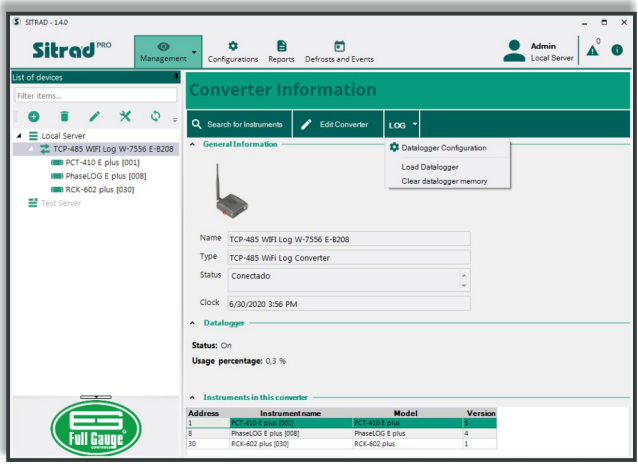
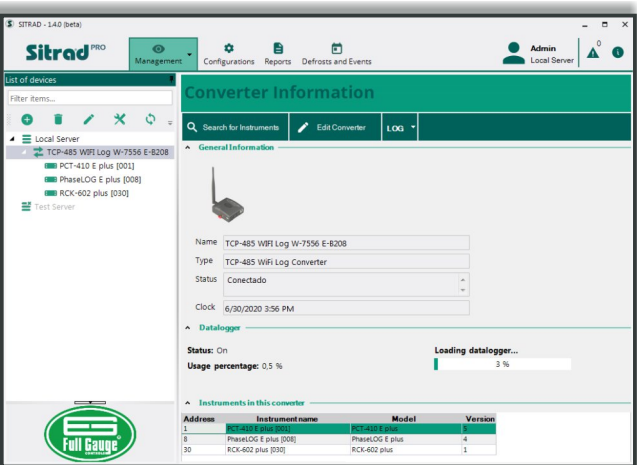
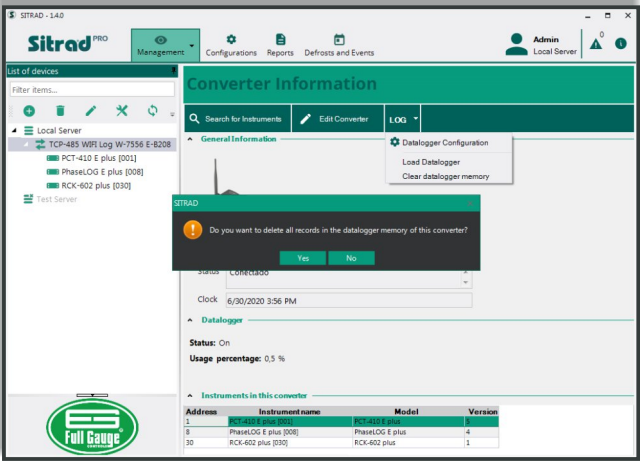

Figure 31
Figure 33
Figure 34
Step 1: With the converter selected, select the **LOG** **Configure Datalogger** menu on the **Converter Information** tab (Figure 31).
To load the converter datalogger, select the **LOG** **Load Datalogger** menu on the **Converter Information** tab (Figure 31). In the Datalogger section, a progress bar indicates the process and the percentage elapsed in loading the datalogger (see Figure 33).
To delete the Datalogger data from the converter, select the LOG  Clear Datalogger memory menu on the Converter Information tab (Figure 31). A window will be displayed confirming the operation (Figure 34). Select Yes and all logs will be deleted from the converter's memory.